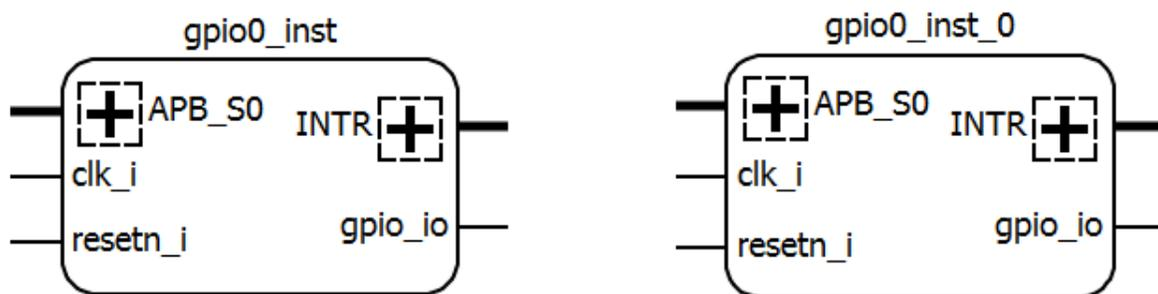

Figure 2.23. Create Duplicate of a Module
- Select the desired module and click Clone . Or, right-click on the module and choose Clone . A copy of the schematic block appears with a new instance name (Figure 2.23).